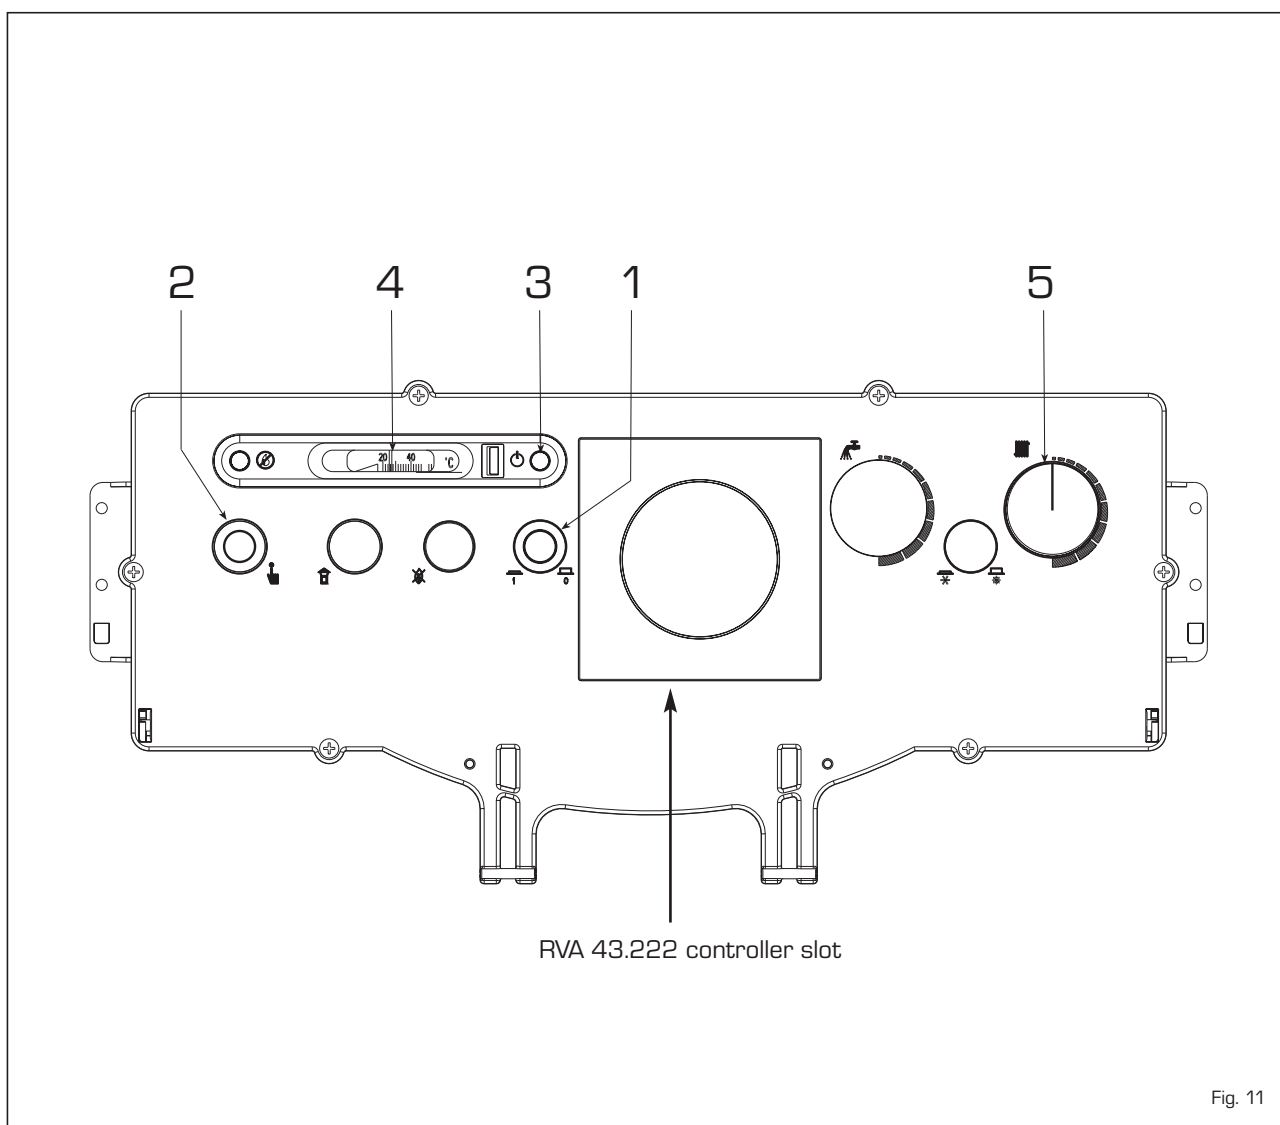

Fig. 11
All functions of the "2R GT OF" boiler may be controlled using the controller, optional code 8096303, which is supplied with an outdoor temperature probe (SE) and a boiler immersion probe (SC). The controller is installed in the control panel in place of the relating cover (fig. 11). The controller is to be connected to an additional series of low voltage connectors for connection of the room temperature control unit (the connectors are supplied in a bag inside the control panel). The probe bulb of the external hot water tank, if any, (SS) code 6277110, must be inserted in the hot water tank sheath, while the bulb of the boiler probe (SC) must be inserted in the boiler sheath.
(fig. 11):
The safety stat with automatic reset calibration set at 100°C (2 fig. 11) trips, immediately turning off the burner when the boiler accidentally overheats.
To temporarily turn off the boiler turn off the electricity supply by pressing the main switch (1 fig. 11).